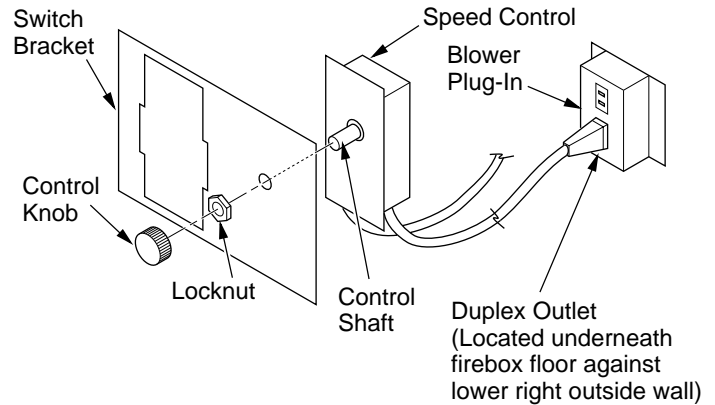

Figure 26 - Attaching Speed Control to Firebox
5. Mount speed control box to switch bracket by placing the plastic control shaft forward through the opening in the switch bracket (see Figure 26).
5. Mount the speed control box against the mounting plate provided in the lower fireplace cavity by placing the plastic control shaft forward through the round hole (see Figure 26, page 17).
6. While supporting speed control, secure control shaft with lock nut by pushing and turning lock nut with pliers clockwise until it is tight against mounting plate. Place control knob provided on shaft (see Figure 26, page 17).